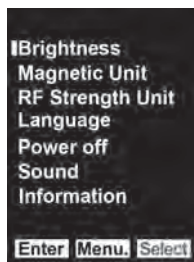

Figure 4 – Main Menu Option Screen
6. From the Main Menu screen (Figure 4), the MENU key can be used to exit the Main Menu.